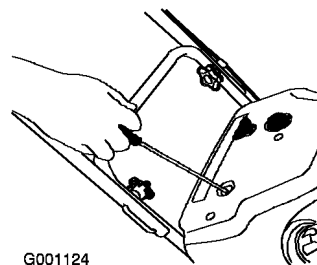

Figure 16
- Pull the recoil starter (Figure 16).